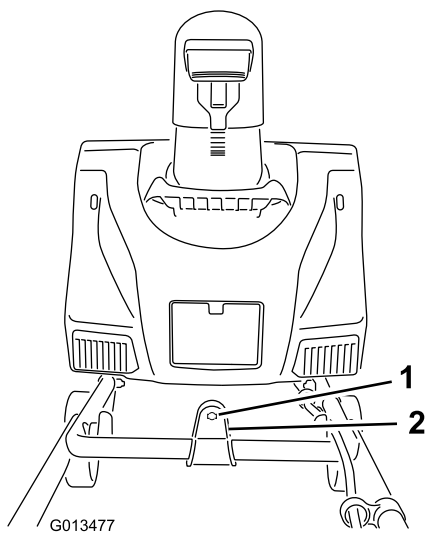

Figure 4
2. Insert the end of the chute control rod through the keyed hole in the bracket that is attached to the top of the lower handle (Figure 4).